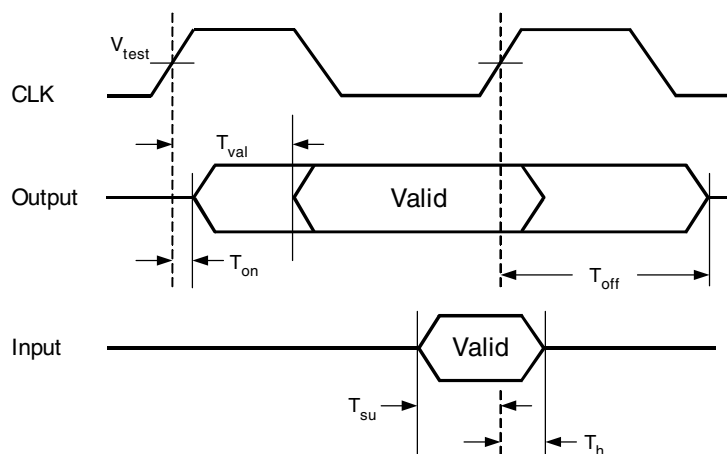

Figure 25-1. PCI-X/PCI Signal Timing Specification
Figure 25-1 illustrates the PCI 6540 signal timing specifications. Table 25-5 delineates the minimum and maximum values, for 133 MHz PCI-X and 66 MHz PCI, for the symbols that appear in Figure 25-1.
**Note:** Refer to PCI-X r1.0b for detailed descriptions of the symbols that appear in Figure 25-1.
Table 25-5. 133 MHz PCI-X and 66 MHz PCI Signal Timing for Figure 25-1